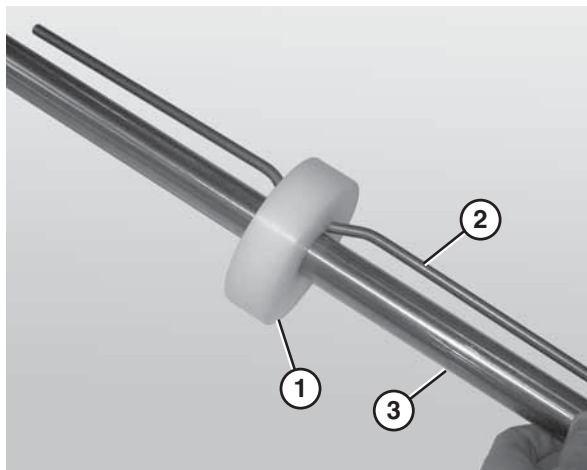

Figure 88
1. Place the idler puck (**Figure 88, item 1**) at the center of the bent retaining bar (**Figure 88, item 2**).
2. Slide the idler puck onto the idler shaft (**Figure 88, item 3**). Make sure to center the idler puck.